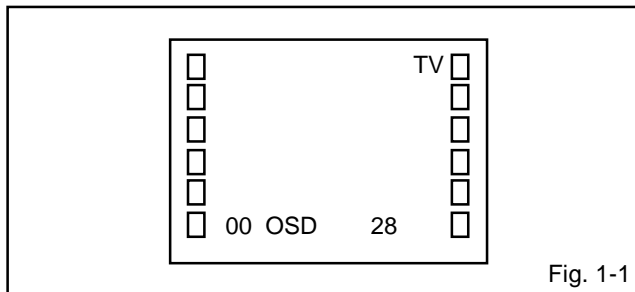

Fig. 1-1
1. In the condition of NO indication on the screen. Press the VOL. DOWN button on the set and the Channel button (9) on the remote control for more than 2 seconds to appear the adjustment mode on the screen as shown in Fig. 1-1.
4. Activate the adjustment mode display of Fig. 1-1 and press the channel button (01) on the remote control to select "CUT OFF".
4. Activate the adjustment mode display of Fig. 1-1 and press the channel button (12) on the remote control to select "R. BIAS".
10. If the picture is too much green. Activate the adjustment mode display of Fig. 1-1 and press the channel button (28) on the remote control to select "CB PED".
12. If the picture is too much red. Activate the adjustment mode display of Fig. 1-1 and press the channel button (29) on the remote control to select "CR PED".
4. Activate the adjustment mode display of **Fig. 1-1** and press the channel button (**22**) on the remote control to select "COLOR CENT".
4. Activate the adjustment mode display of **Fig. 1-1** and press the channel button (**24**) on the remote control to select "TINT".
3. Activate the adjustment mode display of **Fig. 1-1** and press the channel button (**07**) on the remote control to select "V. SIZE".
3. Activate the adjustment mode display of **Fig. 1-1** and press the channel button **(08)** on the remote control to select "V. LINEARITY".
3. Activate the adjustment mode display of **Fig. 1-1** and press the channel button **(03)** on the remote control to select "H.PHASE".